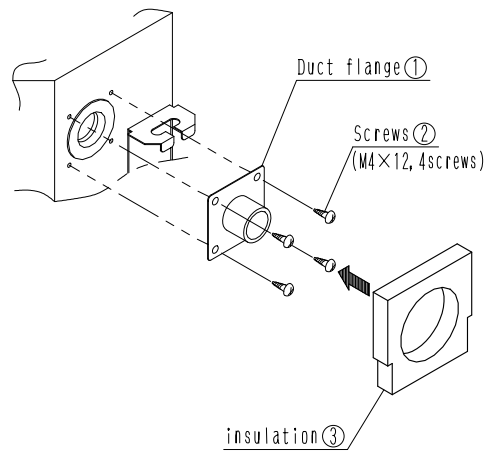

Fig. 3
3. Install the duct flange① with screws② (M4×12, 4 screws) to the opening and adhere the insulation③ (Fig. 3)
- ① Fix the box with the attached fixing screws (1) at two places and the fixing screw (2) at one place, (Fig.3)
[ Fig. 3 ]
- ④ After putting the claw of the cover into the hole of the box, fix them with the attached screw (2), (Fig.3)